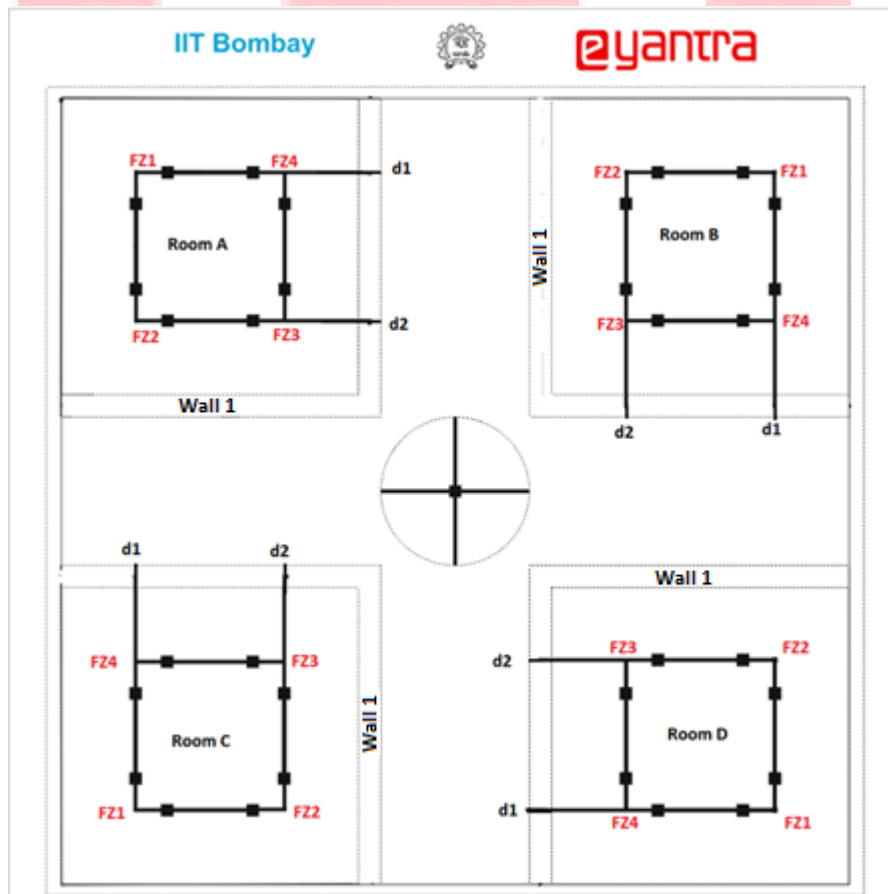

Figure 7: Arena with all Doors and Fire Zones marked
- For each of the 4 rooms, the door can be in one of the two possible positions **d1** or **d2** as shown in Figure 7.
- In each room there are four corners that are termed **Fire Zones** where an LED Array circuit can be placed. In Figure 7 we present the arena with all the doors and fire zone positions marked.